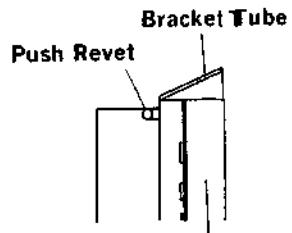

Figure 12 <12図>
- (2) Remove the Push rivet shown in Figure 12.
- (3) The Tube P.C. Board (1) can now be removed.